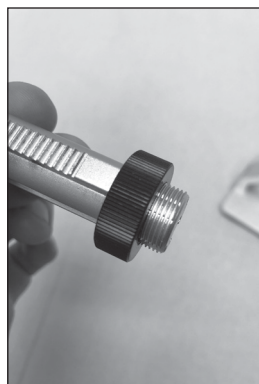

Figure 6. The threaded locking nut. Thread it up the shaft (to the left) before installing on the base.
2. Once the flange is installed, take the focus post assembly and make sure the large black threaded nut is threaded as far up the post as possible (**Figure 6**).